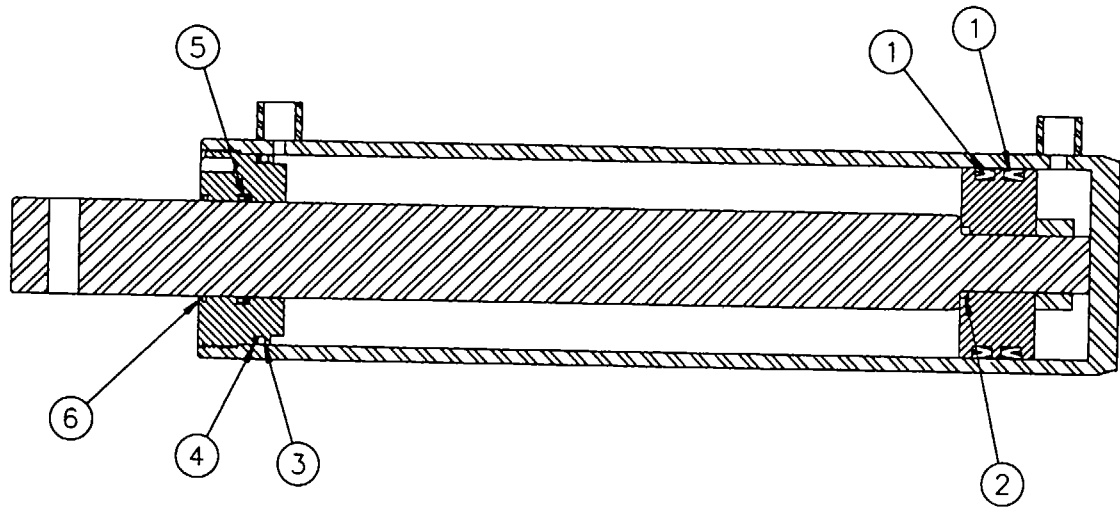

Figure 3-22. Hydraulic Cylinder
**Repair and Re-assembly. See figure 3-22.**